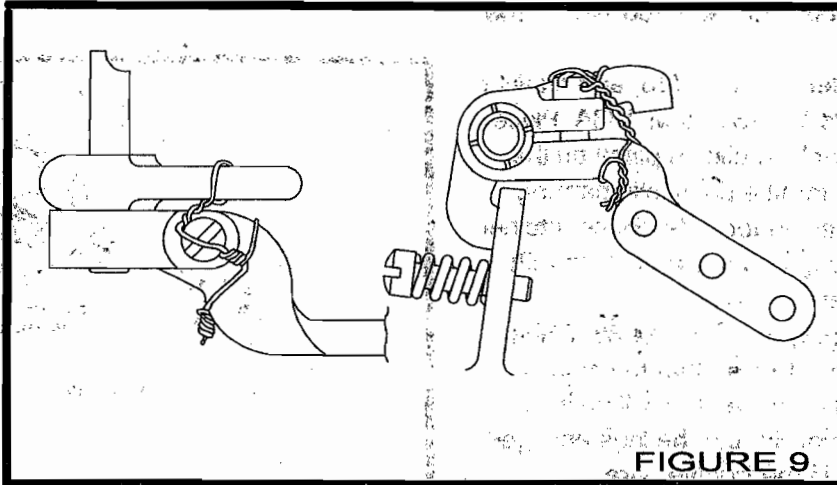
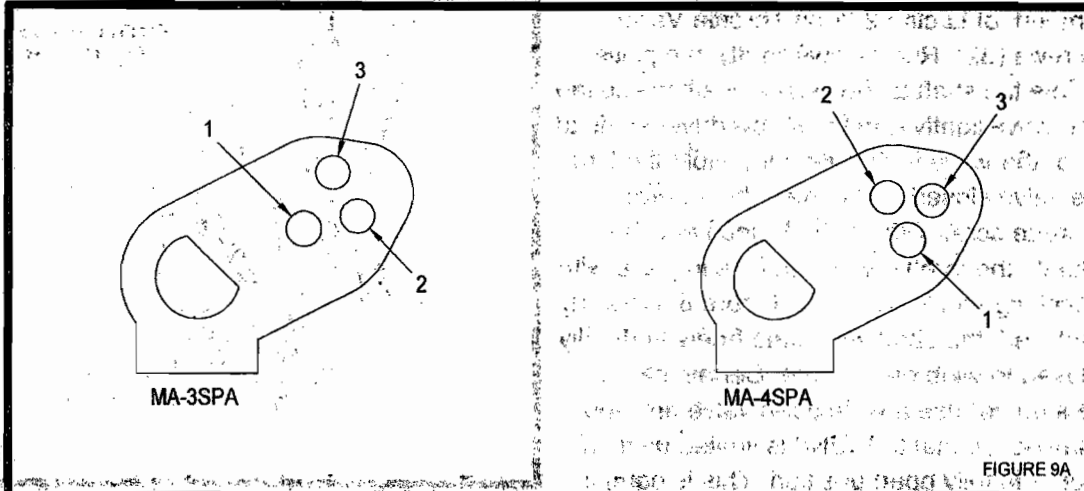

FIGURE 9
FIGURE 9A
- 41) Install float bracket (64) with screws (63) torque to 8-11 inch pounds.
- 42) Slide throttle opening spring (14) (if used) over the end of shaft (34) and insert the end through the hole in casting web. Install accelerating pump lever (13) and secure in place with screw (12). Torque screw (12) to 8-11 inch pounds. Insert the throttle opening spring end through the cross hole drilled screw (12) to safety and bend the end of the spring over to secure. If model does not incorporate spring use safety wire to safety screw (12). Place throttle lever (31) at proper angle location on throttle shaft and secure with retaining nut (30). Torque nut (30) to 20-60 inch pounds. Install cotter pin and bend. **NOTE:** Carburetor without the throttle lever locknut retaining feature on the end of the throttle shaft must have the throttle lever safety wired as shown in Figure 9.
- 43) Insert the pump (11) carefully through the packing and install pump link (10) and cotter pins (9).
- 45) The outer hole, known as the No. 3 hole, is approximately midway in height between the upper and lower holes. The No. 3 hole provides the longest stroke for delivery of maximum amount of accelerating fuel. The lower hole is known as the No. 1 hole and produces the shortest stroke. The middle hole, or No. 2 hole, produces a medium supply of accelerating fuel. Refer to FIG C, Page 1 and Figure 9A.
- 46) Install fuel inlet fitting-strainer assembly (46), and gasket (47). Torque fitting (46) to 120-144 inch pounds.